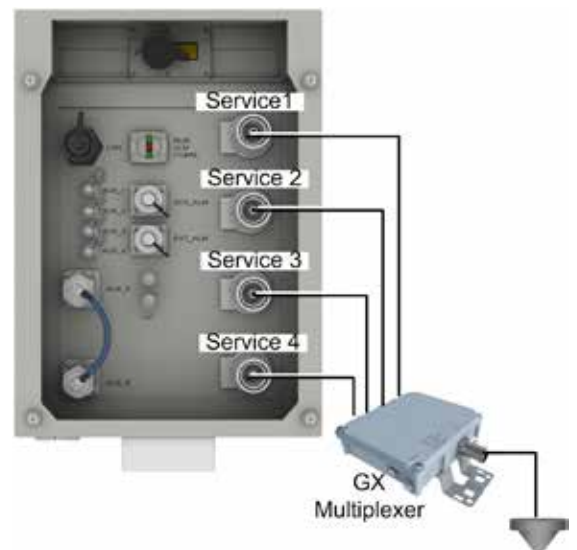

Figure 13. GX Connections to External Combiner
- Step 5:** Connect external combiner RF output connector to broadband antenna. Refer to Figure 13.